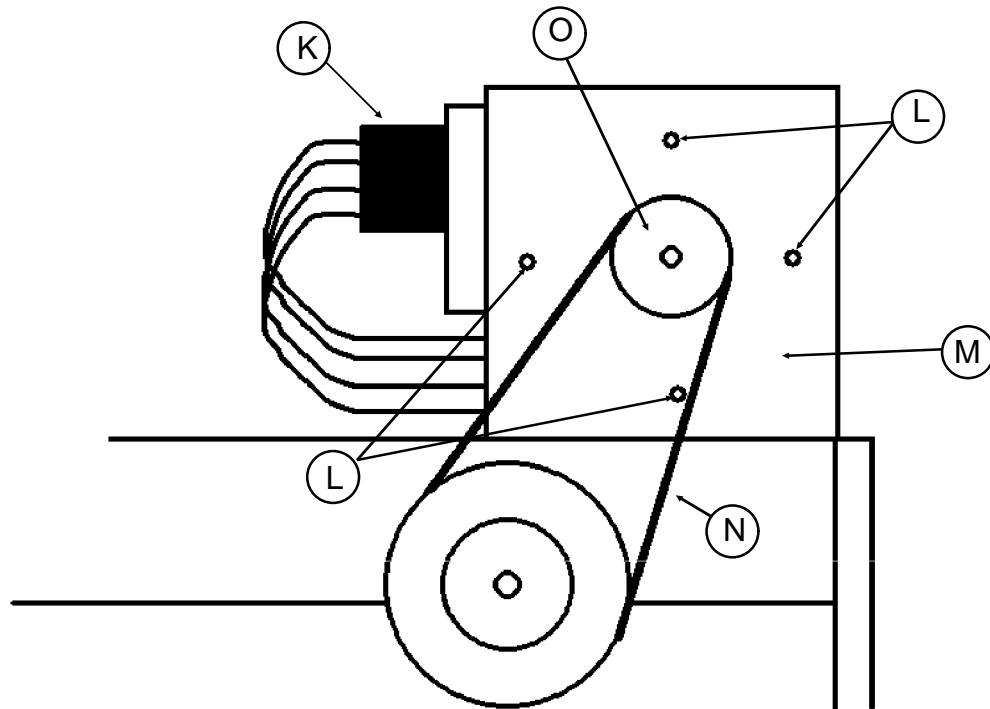

Figure 3
- Unplug the X Motor Encoder Cable (Figure 3-K) from the X Motor.
- Mark the position of the four X Motor Retaining Screws (Figure 3-L) so that you can position the new X Motor correctly in a later step.
- Remove the four X Motor Retaining Screws holding the X Motor in the X Motor Bracket (Figure 3-M).
- Tilt the X Motor enough to slide the X Motor Belt (Figure 3-N) off of the X Motor Pulley (Figure 3-O), then pull the X Motor out of the X Motor Bracket.